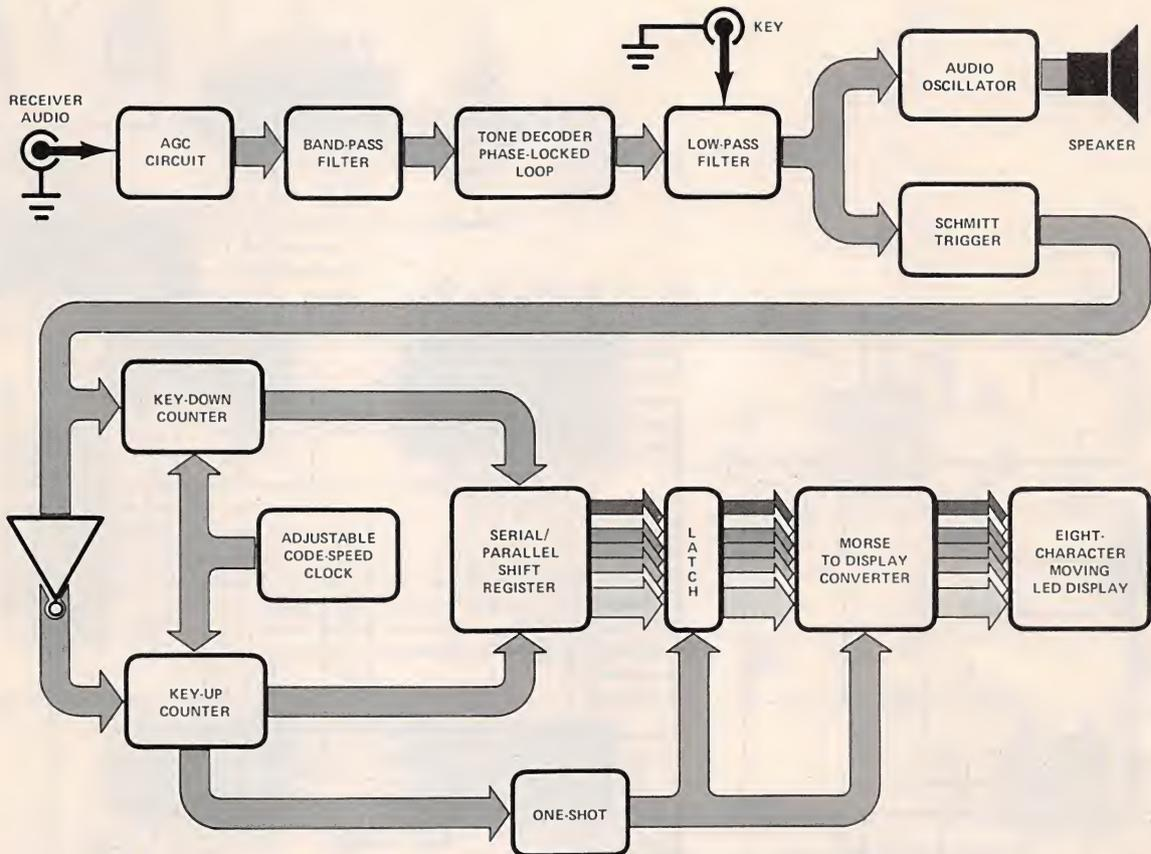

Fig. 1. Block diagram of the Morse-A-Word system shows how the incoming signal in code is processed for alphanumeric display.
**System Analysis.** A block diagram of the Morse-A-Word is shown in Fig. 1. The complete schematic of the main decoding circuit is in Fig. 2, and the display circuit is shown in Fig. 3.
Referring to Fig. 1, the audio output of a radio receiver is applied to an agc stage which limits the amplitude excursions of the input signal. The output of the agc stage drives an active bandpass filter whose response is centered at 1200 Hz. A tone decoder with a phase-locked loop, whose response is also peaked at 1200 Hz, receives signals from a bandpass filter and demodulates them. This decoder generates a low voltage when the transmitter's telegraph key is down and a high voltage under